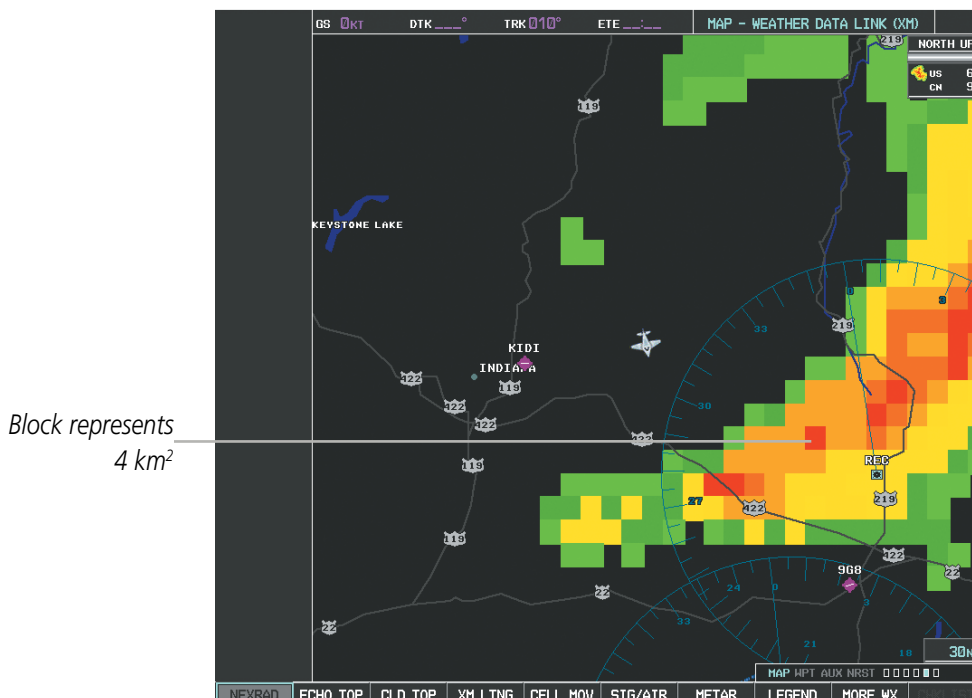

Figure 6-13 NEXRAD Data - Zoomed
- When zoomed in to a range of 30 nm, each square block on the display represents an area of four square kilometers. The intensity level reflected by each square represents the *highest* level of NEXRAD data sampled within the area (Figure 6-13).